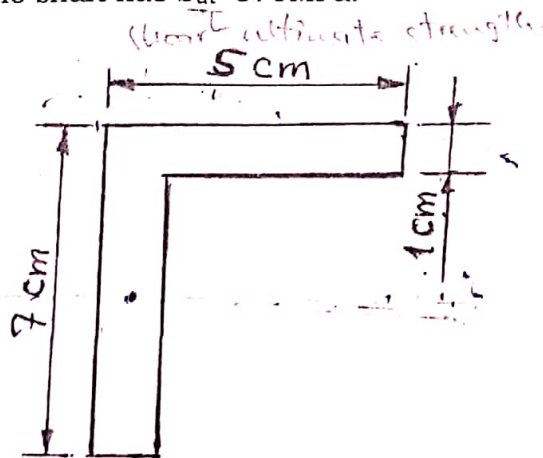

Fig. Q. 2. (b)
(b) Fig. Q. 2. (b) is an unequal angle section. Determine the area moment of inertia of the section about a horizontal axis through the c.g. parallel to the shorter leg. (6)
3. Determine the diameter of a solid circular shaft at a section where the bending moment is 400 Nm and a twisting moment is 2 kNm. (8)